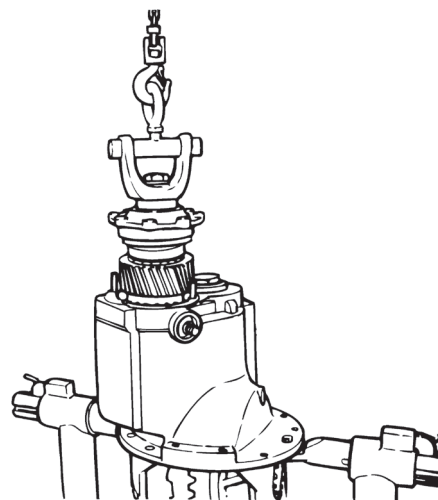

Figure 5.81
- D. Lower the input shaft assembly into the differential case. Figure 5.81.